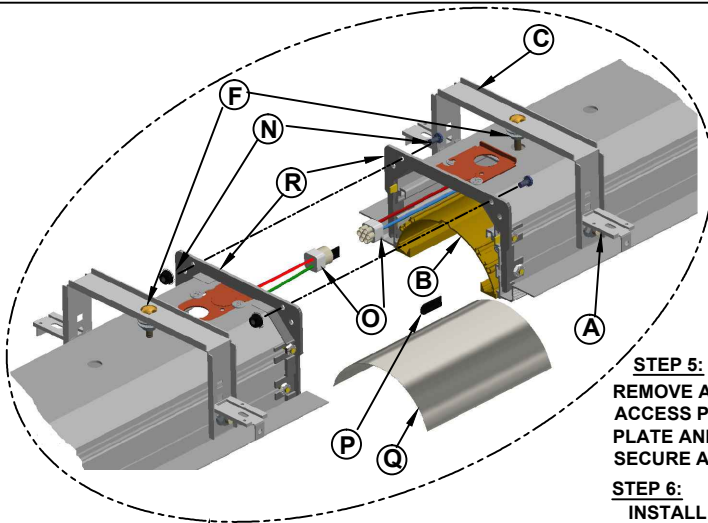

FIG. 5
MOUNT NEXT FIXTURE IN A SIMILAR FASHION AS FIRST FIXTURE SUCH THAT THE ALIGNMENT TABS (P) FIT INTO THE FIRST FIXTURE. MAKE CONNECTION OF THE WIRE HARNESS (O) AND PUSH EXCESS WIRE BACK INTO FIXTURE. SLIDE FIXTURES TOGETHER, MAKING SURE THAT WIRE IS NOT PINCHED BETWEEN JOINT, AND BOLT FIXTURES TOGETHER WITH NUTS AND BOLTS (N) SUPPLIED. (REF. FIG. 5)